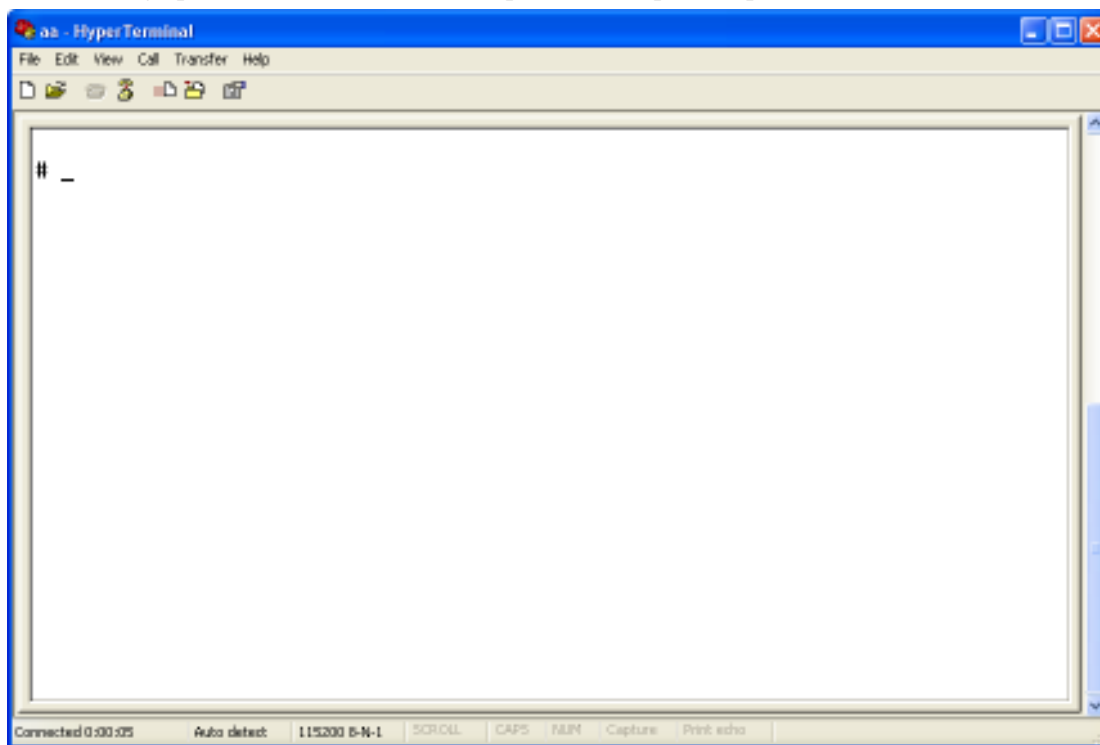

Fig. 3.7 Hyper Terminal command prompt
Step 2: Press “Enter” in Hyper Terminal, the prompt “#” appear, as in Fig. 3.7. Under this prompt the following operation commands to accomplish the setup of the parameters.